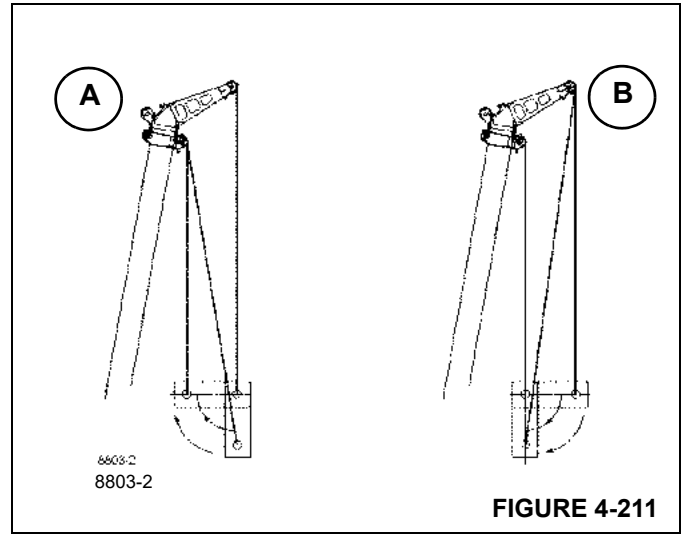
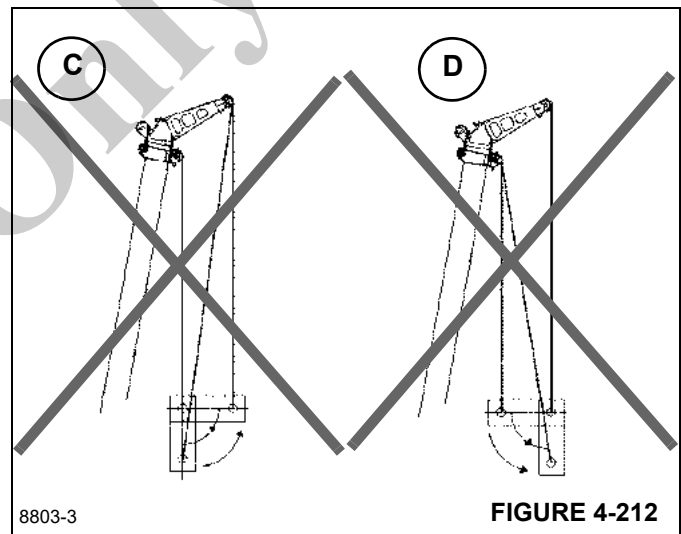

FIGURE 4-211
FIGURE 4-212
The load's center of gravity must move towards the crane (Figure 4-211), (A & B). Any other use is considered non-intended use and is prohibited. For examples see (Figure 4-212), (C & D).
1. Lift the load horizontally using the two hoists (**Detail B**) as shown in (Figure 4-211).
If you proceed in accordance with **Detail C / Detail D** (Figure 4-212), the load will swing outward and the load torque will increase. This work method can cause the machine to tip or the boom system to become overloaded and is therefore strictly prohibited!